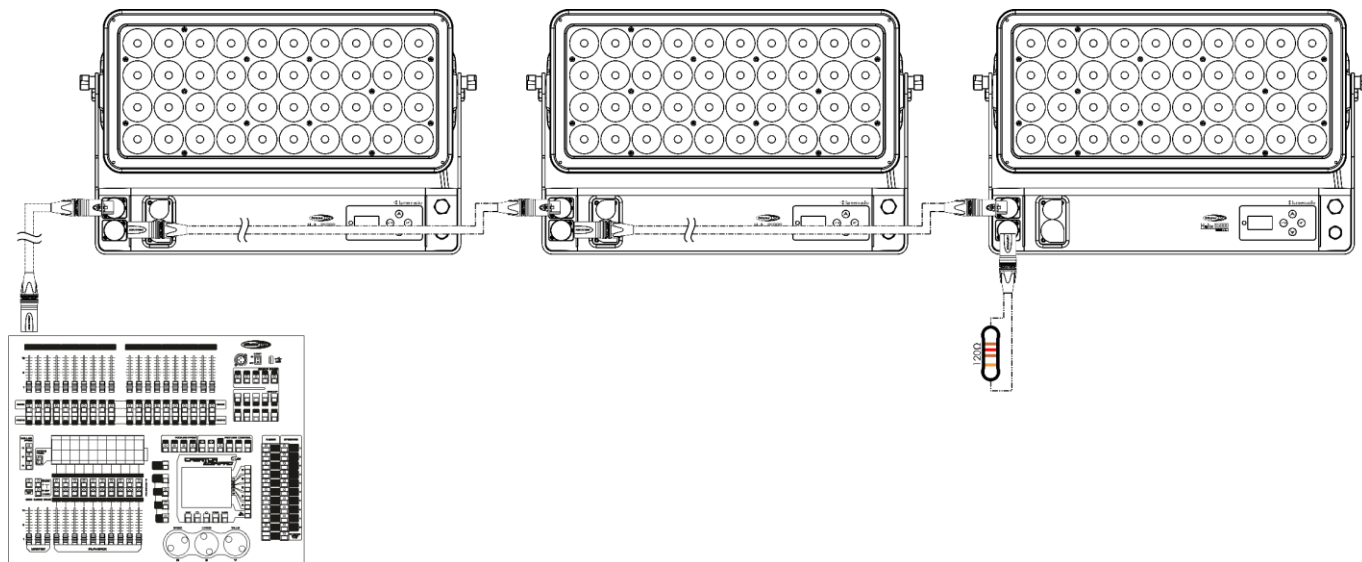

Fig. 16
- 03) Repeat step 2 to connect all devices in a daisy-chain as shown in Fig. 16.